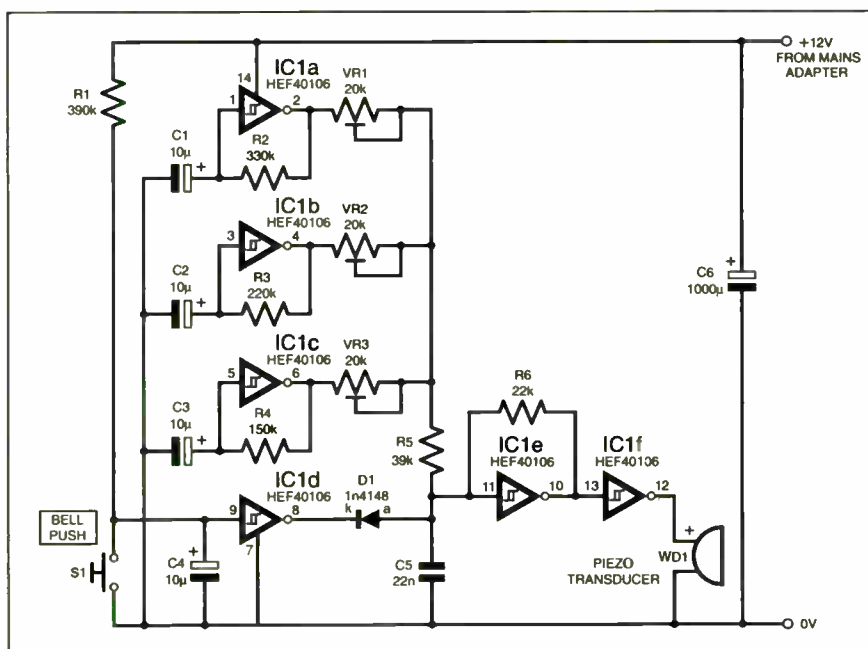

Fig.1. Circuit diagram for the Random Doorbell.
**T**HE Random Doorbell circuit diagram shown in Fig.1 plays about 17 million tunes, thus employing about one component for every one million tunes played! Low frequency oscillators IC1a to IC1c provide eight possible combinations of notes, while timer IC1d plays a sequence of about eight notes every time pushbutton switch S1 is pressed – resulting in 88 tunes. (There are bound to be some world hits in there!)